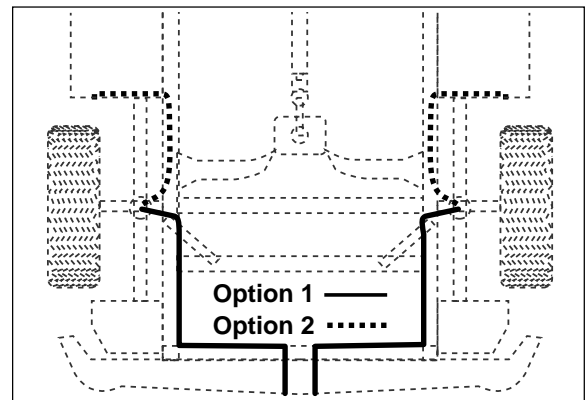

Figure 8
- Select a location for the inflation valves in the rear bumper area or rocker panel flange insuring that each valve will be protected and accessible with an air hose (Figure 8).
- Route air line along frame from desire location valve location to the air fitting (Figure 8). Attach air line to chassis with the provided plastic straps.